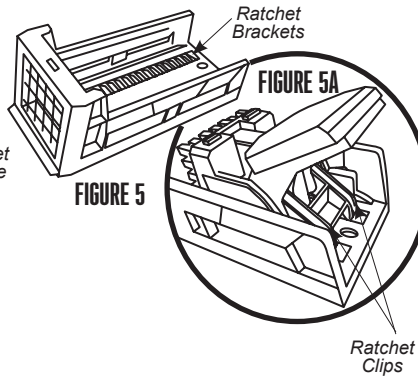

FIGURE 5
5. Pull the Ratchet Handle forward slightly and push down on the Handle. (This will allow the Ratchet Clips to latch into the Ratchet Brackets.) (**FIGURE 5 & 5A**).